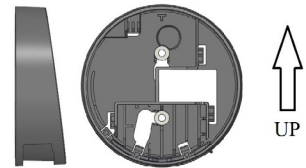

Figure 1a
- (a) Position the keypad housing on the safe door so that the battery door is at the bottom. Attach housing using (2) #8-32 or M0.7 screws and (2) T-shaped spacers. (Figure 1a)